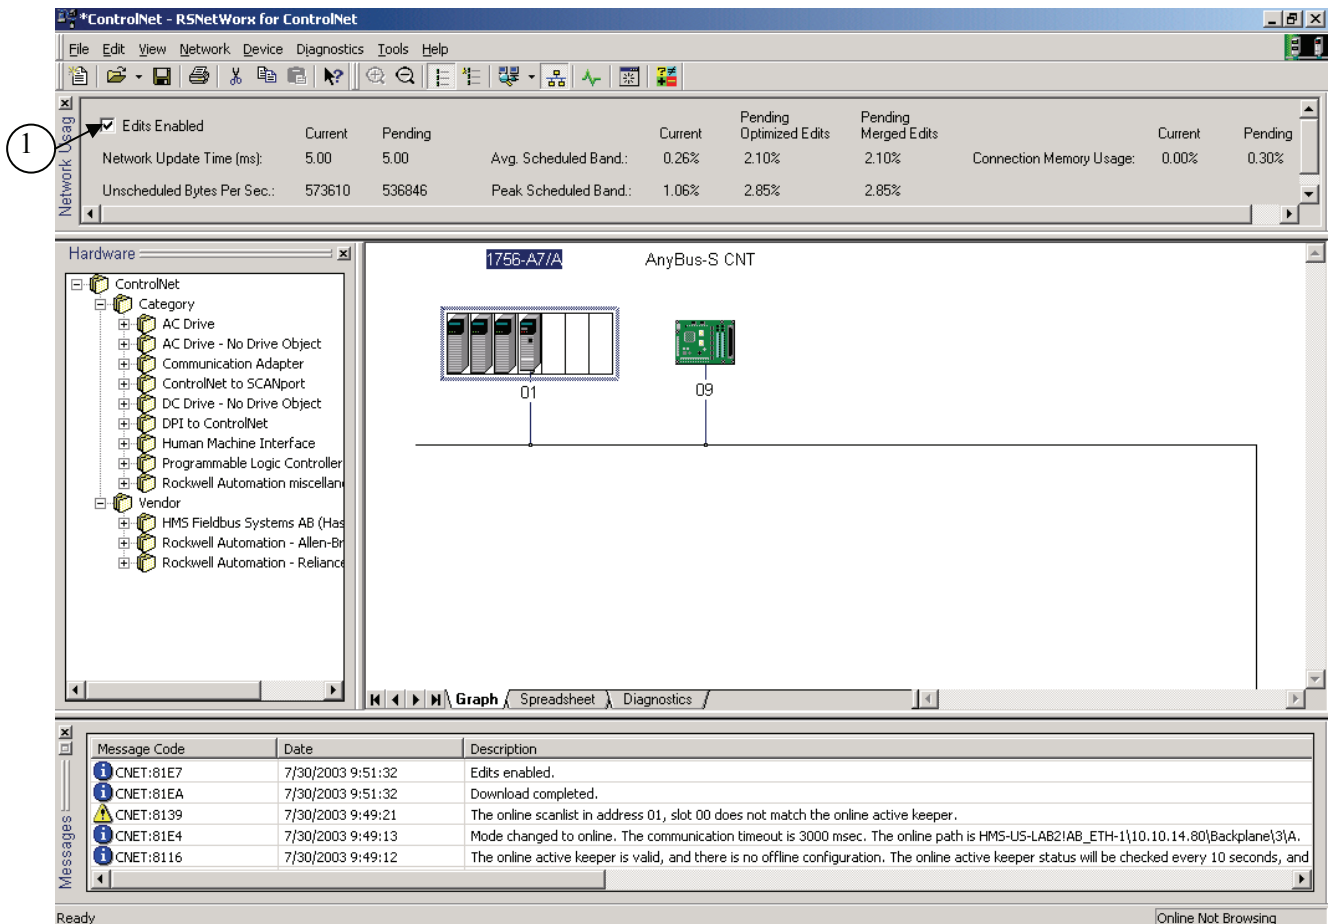

Figure 22 The network after complete configuration.
Now select “Edits Enabled” ❶ as shown in Figure 22, this will show the window below. Click on OK, the offline configuration will now be downloaded to the keeper.